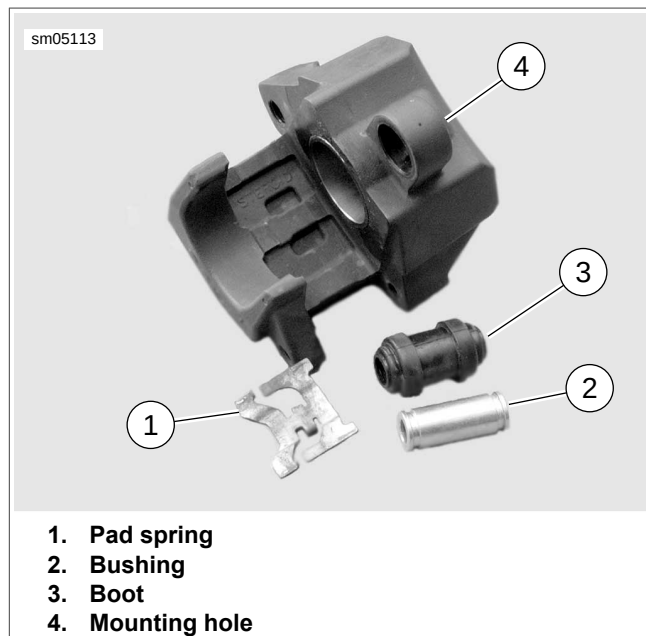
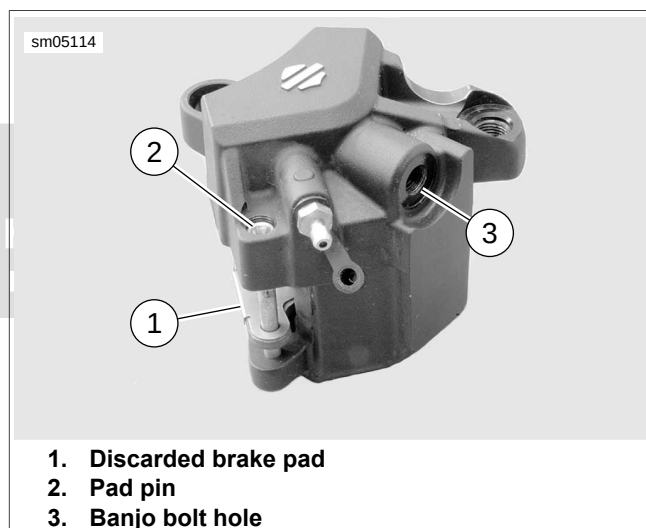

Figure 2-115. Spring, Bushing and Boot
Figure 2-116. Removing Piston: XR 1200X
2. See Figure 2-115. Remove pad spring (1).
3. Remove bushing (2) from boot (3). Remove boot from mounting hole (4). Do not remove bleeder valve at this time.
4. See Figure 2-116. Install a discarded brake pad (1) in the caliper with the backing plate facing the piston. Position